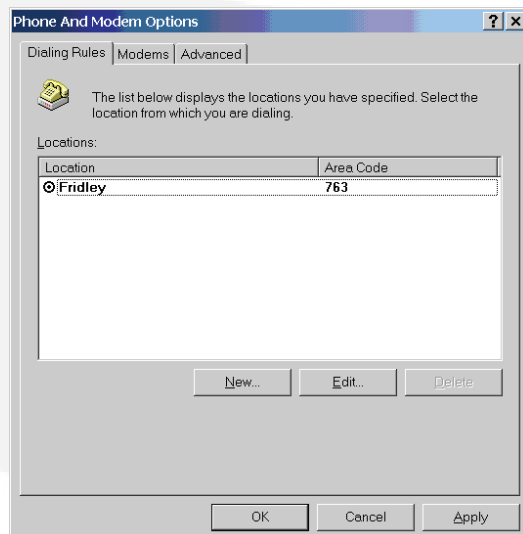

FIGURE 15-24. PHONE AND MODEM OPTIONS – LOCATION
2. With the **Dialing Rules** tab selected, click on the **NEW** button to name and configure the location that you will send the pages from. Figure 15-24.